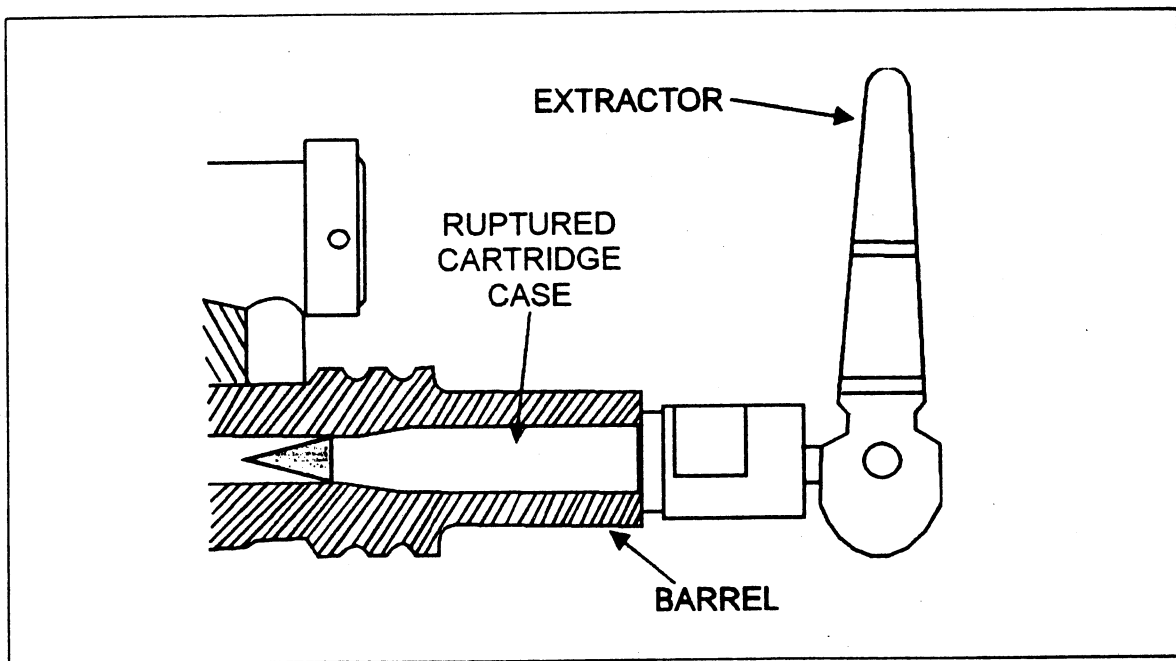

Fig 2-14. Ruptured cartridge removal.
- (3) Hold the cocking handle to the rear, squeeze the trigger, and ease the bolt forward until it stops.
- (4) Remove the barrel.
- (5) Push the threaded end of the extractor post through the ruptured cartridge case (see fig 2-14).
- (6) Pull the handle of the extractor to remove the cartridge (see fig 2-14).